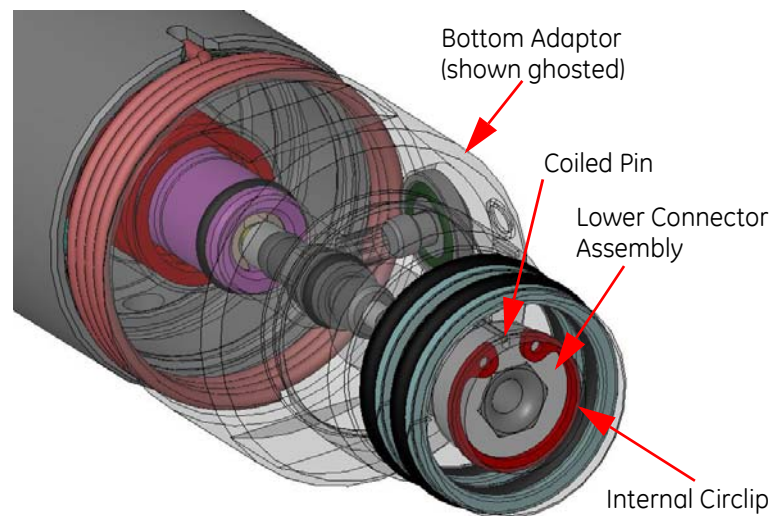

Figure 5-6 Lower Connector Assembly components
- 1 Make sure the Thread Protector (item 4, 416026) is removed from the lower end of the Sensor Section (item 1, 416026).
- 2 With reference to Figure 5-6, remove and retain the Internal Circlip (item 18) from the lower end of the Bottom Adaptor (item 10). The Internal Circlip is used to secure in position the Lower Connector Assembly (item 2).
- 4 When damaged, remove and discard the Coiled Pin (item 19) from the Bottom Adaptor.
- 2 With reference to Figure 5-6, when required, install a new Coiled Pin (item 19) in the lower end of the Bottom Adaptor (item 10).
- 3 Locate carefully the Lower Connector Assembly (item 2) in the lower end of the Bottom Adaptor (item 10). Make sure the Lower Connector Assembly locates correctly with the Coiled Pin in the Bottom Adaptor.
- 4 Push firmly on the Lower Connector Assembly to make it engage fully with the Pressure Isolation Connector (item 32).
- 5 Make sure the Lower Connector Assembly is pushed in enough to permit the Internal Circlip (item 18) to be inserted in the groove in the lower end of the Bottom Adaptor.
- 6 Insert the Internal Circlip (item 18) in the groove in the lower end of the Bottom Adaptor.
- 7 Install the Thread Protector (item 4, 416026) on the lower end of the Sensor Section (item 1, 416026).
- With the Sensor Section and the Electronics Section **separated**, use a multimeter to check continuity between the Lower Connector Assembly and the Fischer 3-Way Connector (item 15).
- With the Sensor Section and the Electronics Section **connected**, use a multimeter to check continuity between the Lower Connector Assembly and the Monoconn Connector (item 15, 416324) at the upper end of the Electronics Chassis Assembly (item 2, 416026).